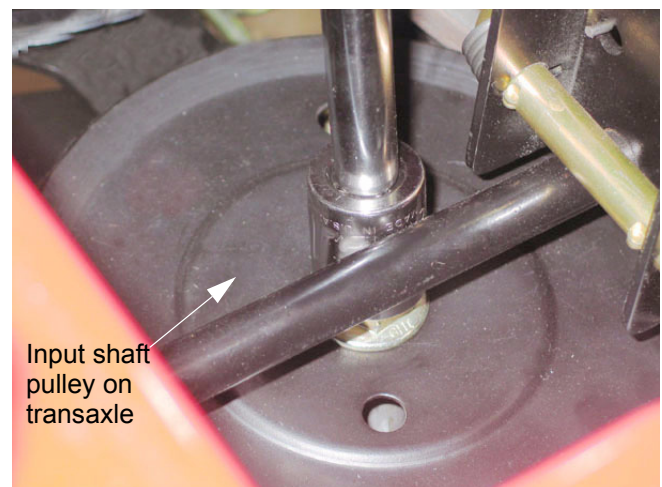

Figure 11.5
- 11.5. Loosen the large nut holding the transaxle pulley on using a 7/16" socket. See Figure 11.5.